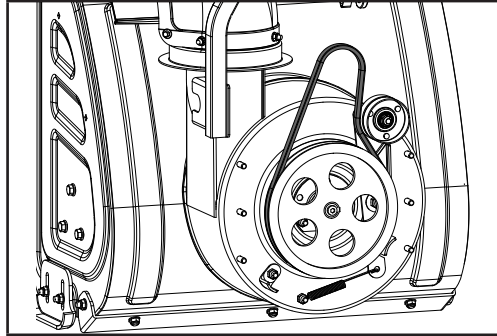

Figure 41
- Slip the drive belt off the pulley. Remove and replace the belt in reverse order ensuring that the new belt is below the spring loaded idler pulley (Fig. 41).